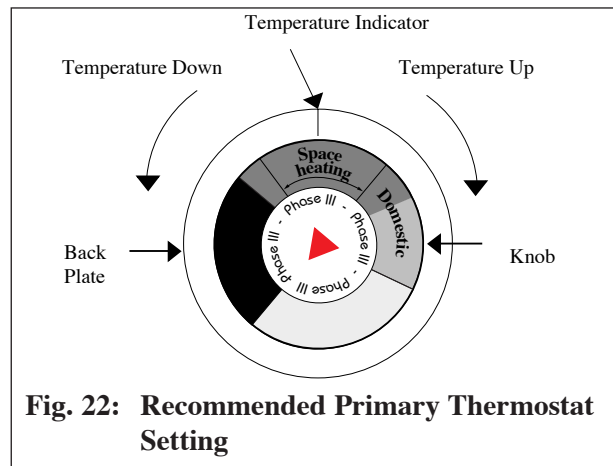

Fig. 22: Recommended Primary Thermostat Setting
Set the thermostat knob as shown in Fig. 22 page 42.
- Set the thermostat knob as shown in Fig. 22.
- Primary and Secondary Thermostat properly set as shown in Fig. 22 and 23 page 42.